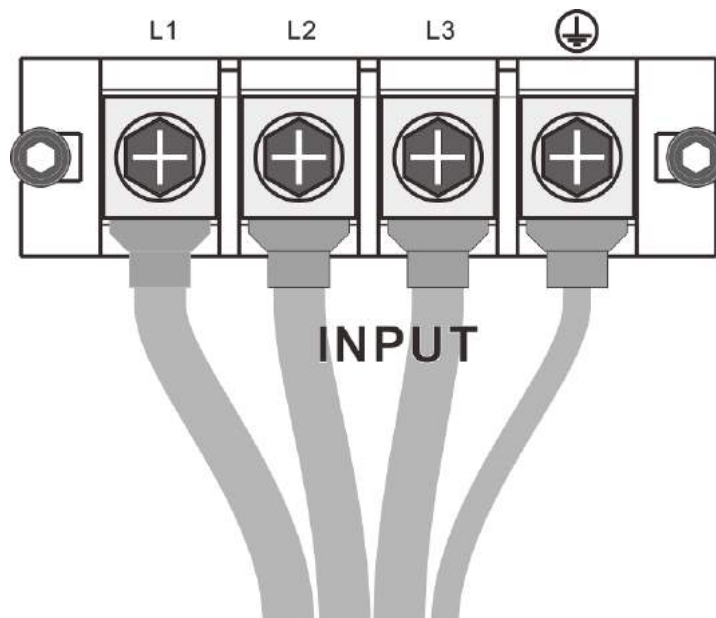

Figure 2-1 3-Phase Power Input Connection
Perform the steps below for connection as Figure 2-1 shows:
2. Connect the power cable to the power terminal of Regenerative Grid Simulator (see Figure 2-1.)